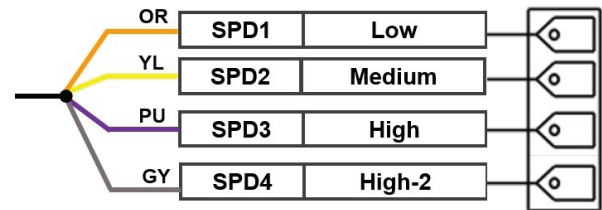

Fig. 51 — 4-Speed Settings Constant Torque ECM Pin Diagram
3. Change the torque tap wire to on the molex plug to one of the four speed settings. See Fig. 51 and 52.